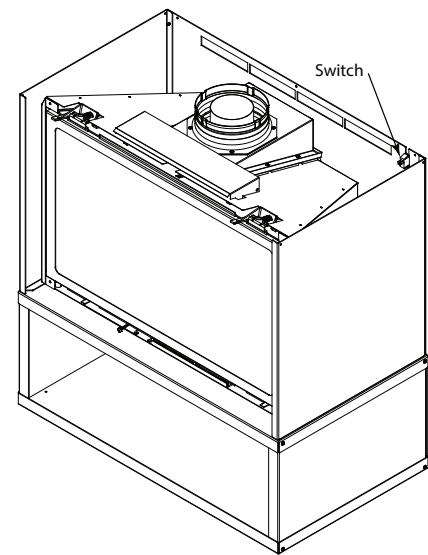

Figure 6.19
19. Install the switch by snapping into the slot in the cabinet upper back. See Figure 6.19.